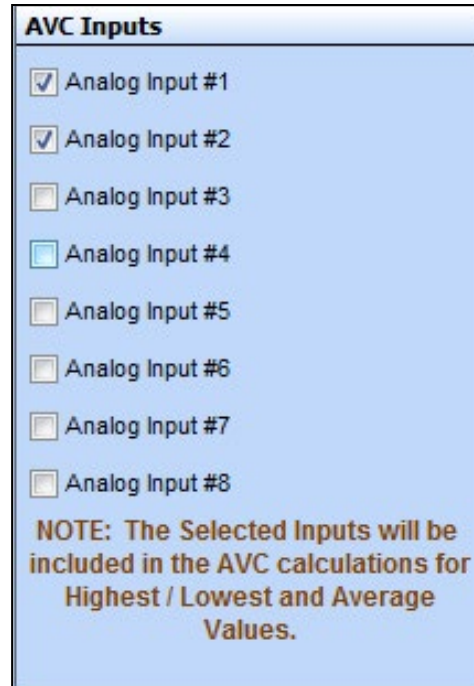
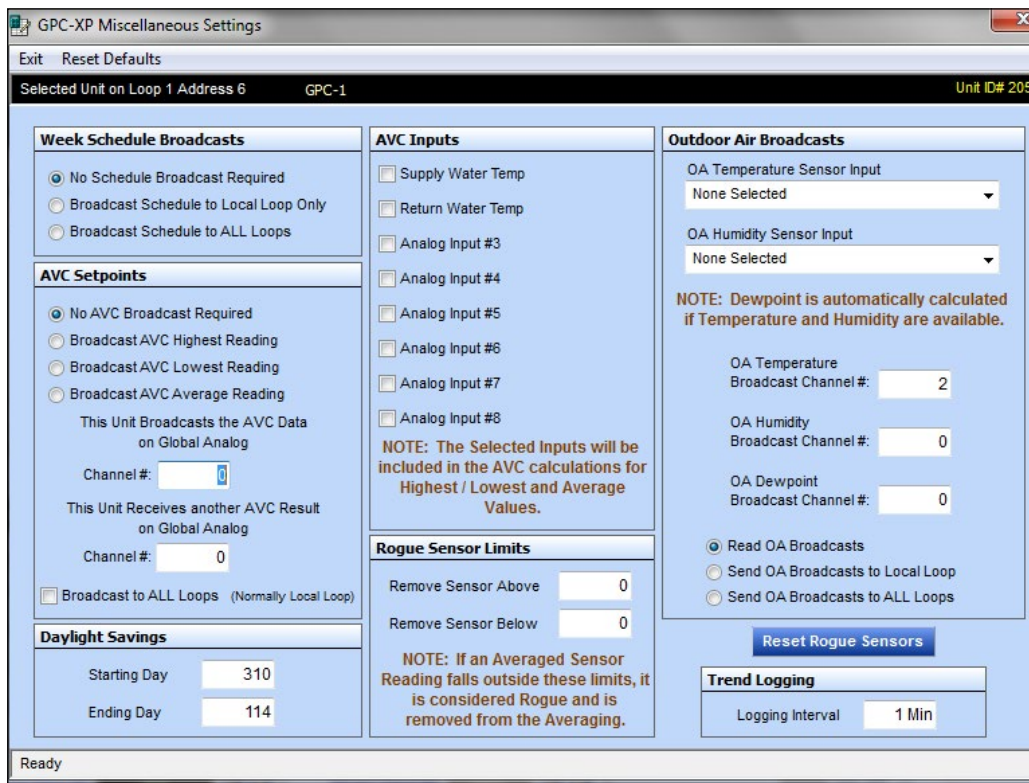
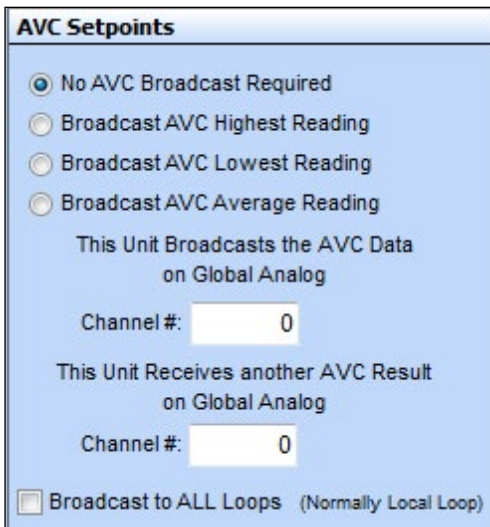

Figure 72: AVC Inputs Window
Figure 85: Miscellaneous Settings Screen
Figure 87: AVC Setpoints
To select which Analog Inputs will be used for this AVC operation, click **<Setpoints>** from the Toolbar located at the top of the *GPC-XP Status Screen*. Then click **<Miscellaneous Settings>**. The *Miscellaneous Settings Screen* will open. See Figure 85, page 40. In the *AVC Inputs Window*, select the Analog Inputs that you wish to include in the AVC function. See Figure 72 below. Inputs not selected will perform their normal configured function and will not affect the AVC operations.
The *Miscellaneous Settings Screen* will open. See Figure 85 below.
The *Week Schedule Broadcasts Window* (Figure 86 below) located in the *Miscellaneous Settings Screen* (Figure 85, page 40) allows you to broadcast the Schedules of this GPC-XP to other Unit Controllers only on the Local Loop of this GPC-XP or to All Loops of a multiple loop system. If an option to broadcast is chosen, all (8) Schedules of this GPC-XP are broadcast. The decision of another controller to accept a specific Schedule is configured on the receiving controller. Schedules cannot be broadcast from one GPC-XP to another GPC-XP.
In the *AVC (Analog Value Comparison) Setpoints Window* (Figure 87 below) located in the *Miscellaneous Settings Screen* (Figure 85, page 40), you can configure the controller to broadcast one of the AVC values so it can be used by another controller(s), such as an HVAC unit controller or a second GPC-XP Controller.
In the *AVC (Analog Value Comparison) Inputs Window* (Figure 88 below) located in the *Miscellaneous Settings Screen* (Figure 85, page 40), select the Analog Inputs that you wish to include in the AVC functions. Inputs not selected will perform their normal configured function and will not affect the AVC operations.
The *Rogue Sensor Limits Window* (Figure 89 below) is located in the *GPC-XP Miscellaneous Setpoints Screen* (Figure 85, page 40). This allows you to remove an AVC sensor value from the AVC Averaging function if it falls outside the range specified by the Above/Below values in this field. This condition could be caused by a bad sensor or a space condition that gets out of control for some reason. A Rogue Sensor Alarm can be generated and requires you to configure “Alarming Enabled” on the *Analog Input Configuration Screen* (see Figure 11, page 13) for each Analog Input included in the AVC function. The sensor will automatically be re-included in the AVC Average function if it returns to the acceptable range. The alarm, however, is locked until it is cleared by clicking on the **<Reset Rogue Sensors>** button (Figure 90 below).
In the *Outdoor Air Broadcasts Window* (Figure 91 below) located in the *Miscellaneous Settings Screen* (Figure 85, page 40), you can configure which inputs will be used to read the Outdoor Air (OA) Temperature and the OA Humidity. These are the values that will display in the Outdoor Status section of the *GPC-XP Controller Status Screen* (Figure 8, page 11).
In the *Daylight Savings Time Window* (Figure 92 below) located in the *GPC-XP Miscellaneous Setpoints Screen* (Figure 85, page 40), if you want the Schedules on this GPC-XP to respond to Daylight Savings Time changes, you must enter the Start and End dates in this field.
In the *Trend Logging Interval Window* (Figure 93) located in the *Miscellaneous Settings Screen* (Figure 85, page 40), you can configure how often you want the GPC-XP to log the Input and Output values and conditions by entering a Logging Interval and press **<ENTER>** to save. The maximum amount of time that can be entered is 60 minutes.
From the top toolbar of the *Miscellaneous Settings Screen* (Figure 85, page 40), click on **<Reset Defaults>**. See Figure 94 below.